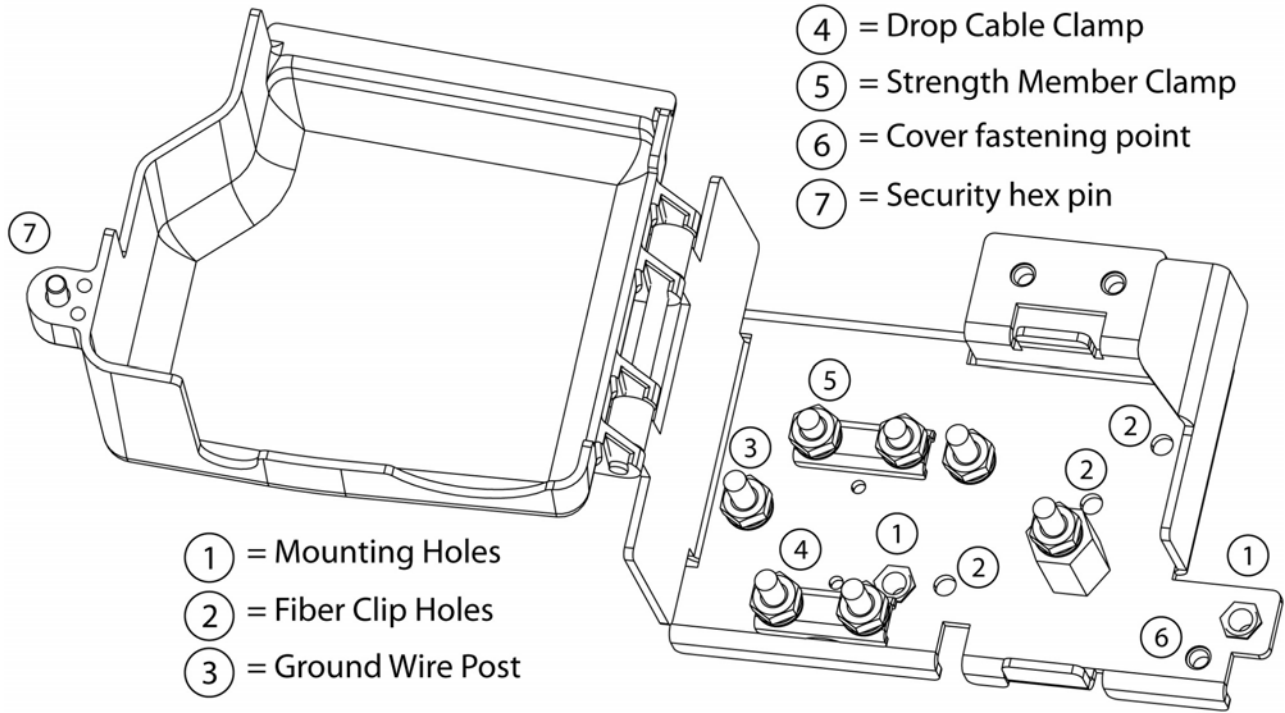

Figure 5. Grounding Plate
2. Review the grounding plate layout, as shown in Figure 5.
6. Locate the drop cable clamp on the grounding plate (see Figure 5 on page 12) and remove the Kepnuts, washers, and bar from the posts.
7. Locate the strength member clamp (see Figure 5 on page 12) on the grounding plate and loosen the Kepnuts.
8. Locate the drop cable clamp on the grounding plate (see Figure 5 on page 12) and remove the Kepnuts, washers, and bar from the posts.
9. Locate the strength member clamp (see Figure 5 on page 12) on the grounding plate and remove the Kepnuts and bar.